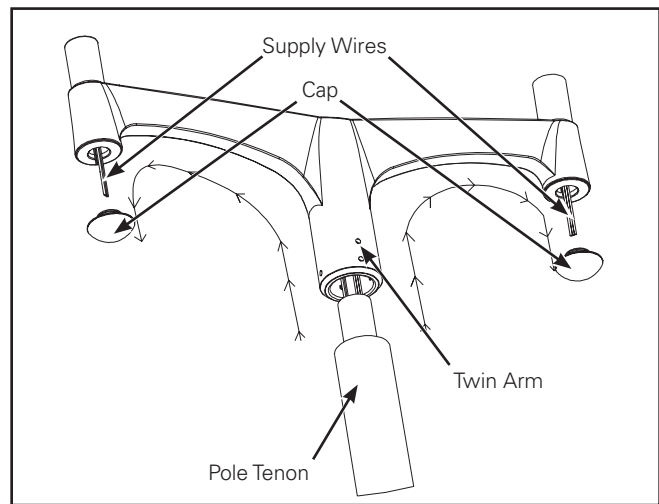

Figure 10.
- Pull the supply wires from post's tenon and split supply connections into two with supply leads going in each side of the arm. (Figure 10.)